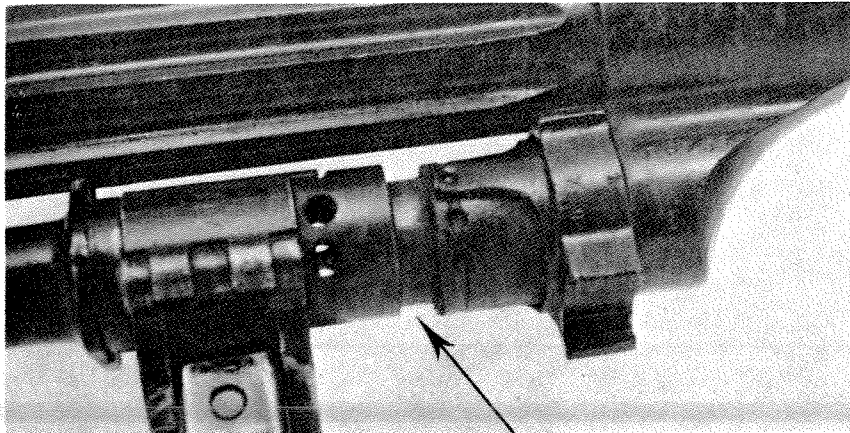

Figure 5-2. Gas escape chamber aligned with the gas regulator,
b. Insert the rear of the barrel into the barrel receiver group while aligning the gas escape chamber located on the bottom of the barrel with the gas regulator on the bottom of the barrel receiver group (fig. 5-2).